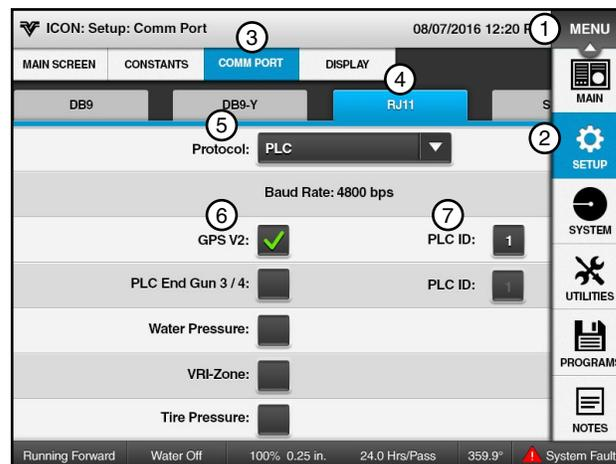

Figure 41-1 1. Menu 5. RJ11 Protocol (PLC)
(b) Select the **RJ11 Protocol** field and depending on which GPS position option is installed on the machine, choose either **PLC** (GPS Position Tower Box) or **Valley GPS** (Valley GPS Antenna) from the list. See Figures 41-1 and 41-2.
- Check the **GPS V2** check box to enable GPS position. See Figure 41-1.